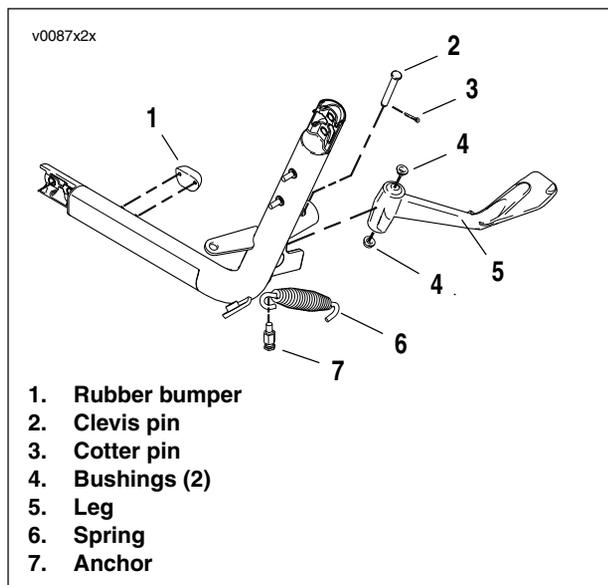

Figure 2-26. Jiffy Stand Components
2. See Figure 2-26. Remove cotter pin (3) from clevis pin (2).
1. See Figure 2-26. Apply **LOCTITE® 243** (blue) to anchor (7). Install and tighten anchor to 7-9 Nm (62-79 in-lbs).
2. Apply **LOCTITE® AEROSOL ANTI-SEIZE** to both bushings (4) and install bushings in position for a retracted leg.
3. Orient leg retracted in mounting bracket, and install **new** clevis pin (2) through the upper bushing (4), leg (5), and lower bushing (4).
4. Install **new** cotter pin (3).
5. Attach spring (6) to the anchor and to jiffy stand leg (5). When properly installed, spring open hook on anchor faces outward and open hook on jiffy stand leg faces down when jiffy stand leg is extended.
6. Replace rubber bumper (1) if required.